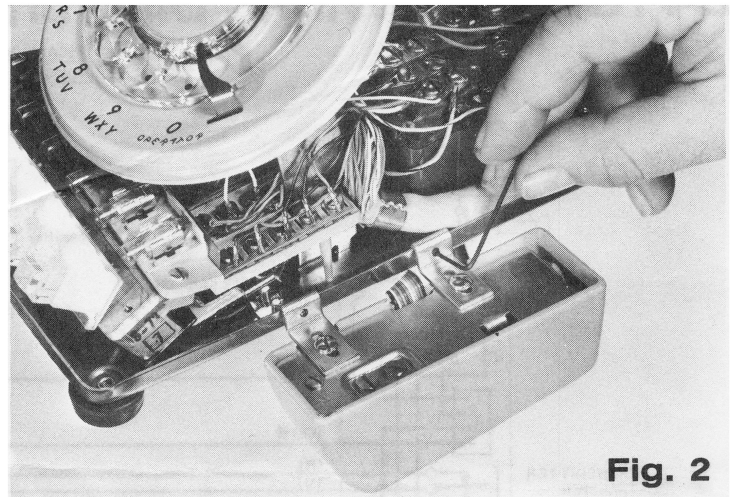

Fig. 2
3. Install clip mounting brackets to Applique base with (2) machine screws. (Fig. 2) The Applique Unit is temporarily mounted upside down to properly position the clip mounting brackets and to allow for set screws to be tightened with wrench provided.